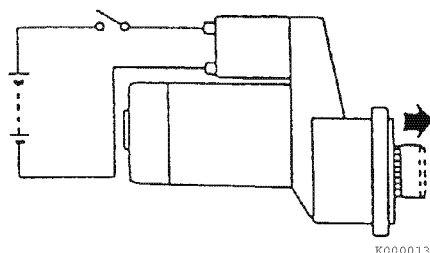

Figure 11-33
- Turn the switch ON and measure the pinion moving distance L in the thrust direction (**Figure 11-33**). Perform this test within 10 seconds. See *Starter Motor Specifications* on page 11-5 for the service limit.